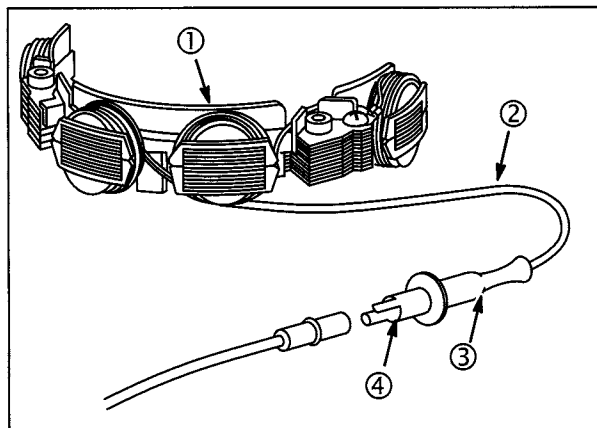

**Fig. 11**
1. Insert RED test lead (2) into **VΩ** receptacle in meter.
2. Insert BLACK test lead (1) into **COM** receptacle.
4. Attach RED test lead clip to AC output terminal (3), **Fig. 11**.